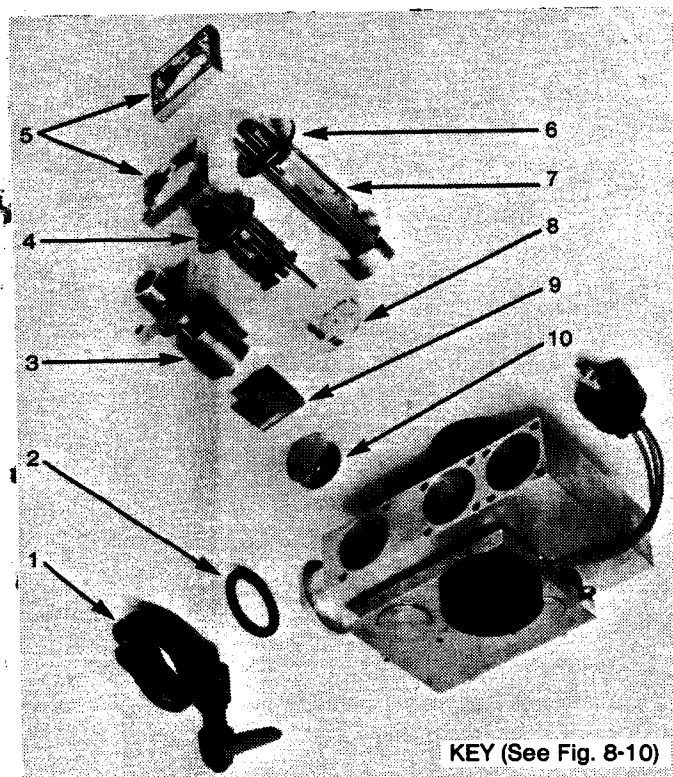

Figure 6-28. Spectrometer Tube
8. Remove right side panel. Remove the three electrical plugs at the top of the spectrometer tube. Unplug the heater. Loosen the compression fitting and remove the spectrometer tube to a convenient bench. (Figure 6-28 is an "exploded" view of the spectrometer tube.)